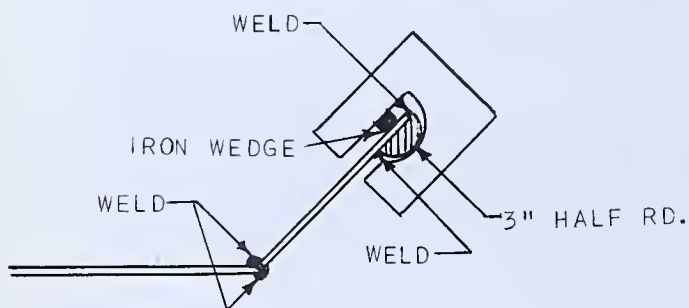

FIG. 593 — *Fitting Half-Round to Apron Plates*
43. Fit 3" half round (pc. mk. 30) to outer edge of apron plates as shown in Fig. 591, Fig. 593, Drawing 241-880-3 and Drawing 241-880-4 at section D.